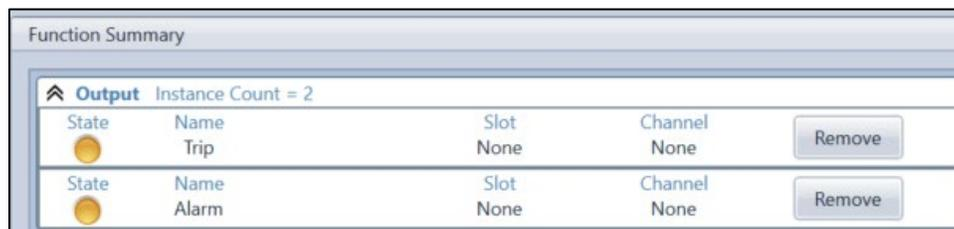

Figure 2-15. Function Summary Screen
Step 10: Click the Yellow state button (Figure 2-15) on the newly created Output Trip Instance. Map hardware output 2 in slot 3 as shown in Figure 2-16. Repeat for Alarm output with slot 3, output 4 as shown in Figure 2-17. These outputs are now utilized as Output Instances OUT-1 and OUT-2 and named “Trip” and “Alarm”.